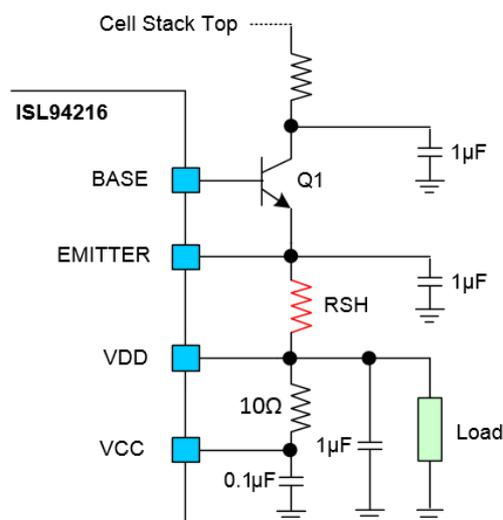

Figure 100. External Power Supply Components
The ISL94216 has an internal regulator that uses an external power transistor to provide regulated voltages for its internal circuits. The output of this regulator can also power other system circuitry, including the microcontroller. See Figure 100 while reviewing sections “VCC Pin (30)” through “BASE Pin (33)” on page 92.
These pins are to be connected per Figure 100 and should not be driven from external sources.